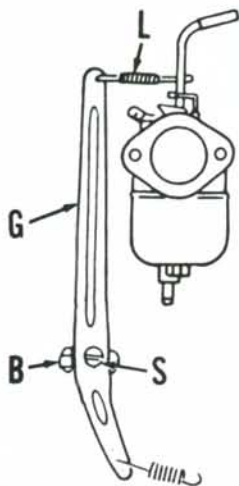
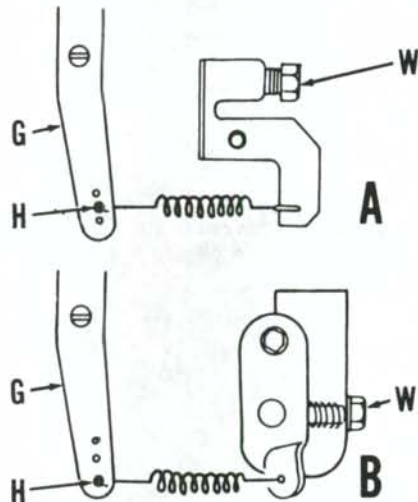

Fig. Y2-6—Drawing of governor linkage. Refer to text for operation.
Fig. Y2-7—Adjust governed engine speed as outlined in text. Note position of spring end in hole (H) for MF180 models in View A or for MF260 models in View B.
GOVERNOR. All models are equipped with a flyweight type governor attached to and driven by the camshaft gear. The governor forces governor shaft (S—Fig. Y2-6) to rotate according to engine speed. Pinch bolt (B) secures governor arm (G) to shaft (S). Movement of governor arm (G) is transmitted by link (L) to carburetor throttle arm.
Note in Fig. Y2-7 that governor spring end is connected to middle hole (H) of MF180 governor arm (G) or to lower hole (H) of MF260 governor arm (G).
To adjust governed speed, loosen pinch bolt (B—Fig. Y2-6). Pull upper end of governor arm (G) to left (away from carburetor) so carburetor throttle is fully open. Turn governor shaft (S) counterclockwise until stop is contacted then retighten pinch bolt (B). With engine running under no load, turn adjusting screw (W—Fig. Y2-7) so maximum governed speed is 3800 rpm. If available, a frequency meter may be connected to an outlet and maximum governed speed adjusted so desired current frequency is obtained.